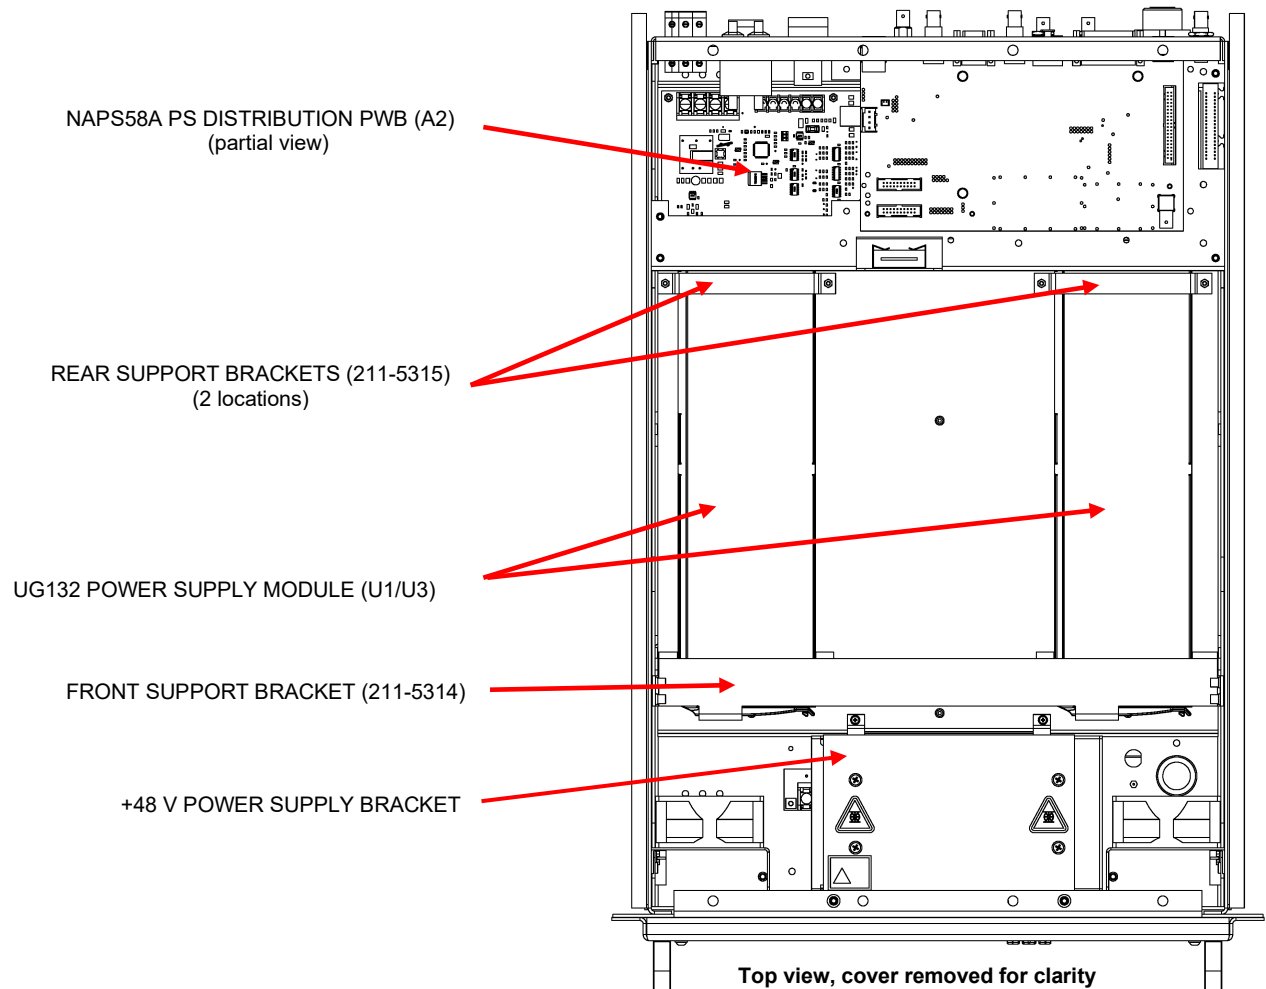

Figure 4: VS2.5 Top View with new PS Distribution PWB and Power Supply Modules
- (c) Install the Front Support Bracket on the front of the Power Supply Modules using the four M4 screws removed in Step 2.1 (b). The bracket is secured with two screws on each side of the transmitter. See Figure 4.
- (d) Install the two (2) Rear Support Brackets on the rear of the Power Supply Modules using the four (4) sets of M3 nuts and washers (Nautel Part #'s HMN02, HMW02 and HMW32), found in the Hardware Kit. See Figure 4.
- (e) Move the +48 V Power Supply Bracket and its wiring to its original position. Secure the +48 V Power Supply Bracket using the hardware [two (2) countersunk M4 screws and two (2) M3 screws] retained in step 2.2 (e). Install the M4 screws just above the front panel. Install the M3 screws on the pillars installed in step 3.1 (h).